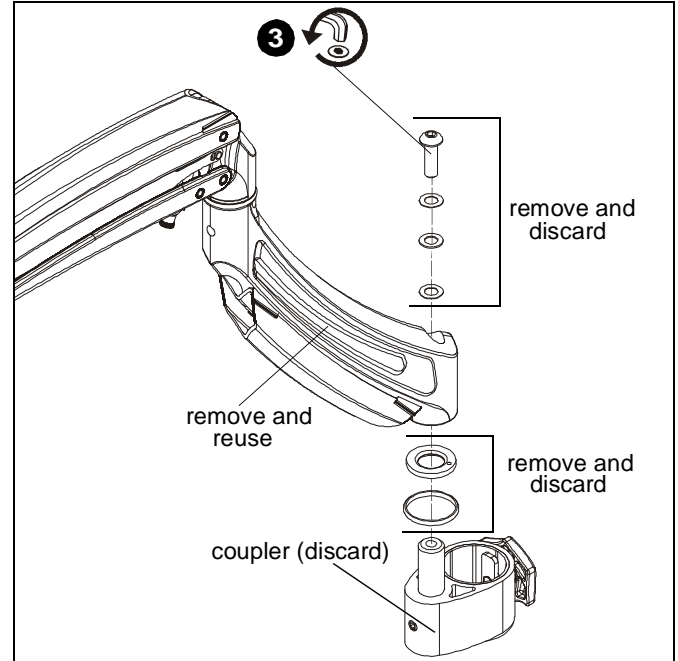

Figure 2
3. Remove arm from column clamp by removing button head cap screw and additional hardware. (See Figure 2)